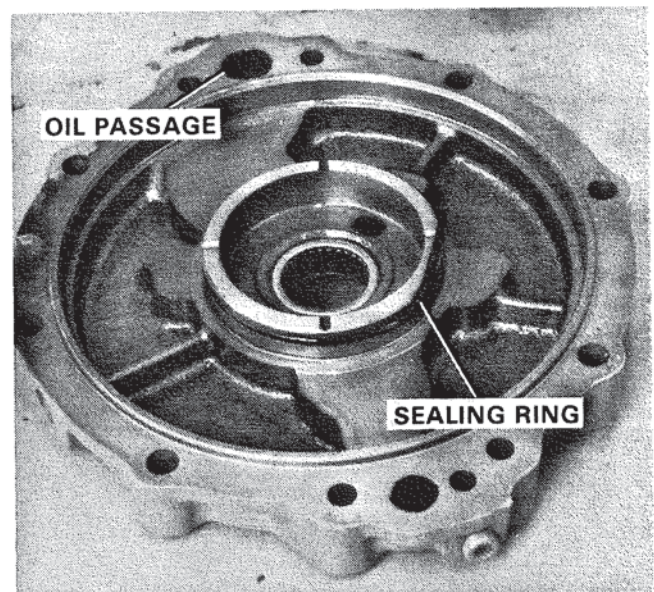

Figure 73. Assembling Sealing Ring.
1. After checking adapter for the following, place it on a clean surface. Figure 73.